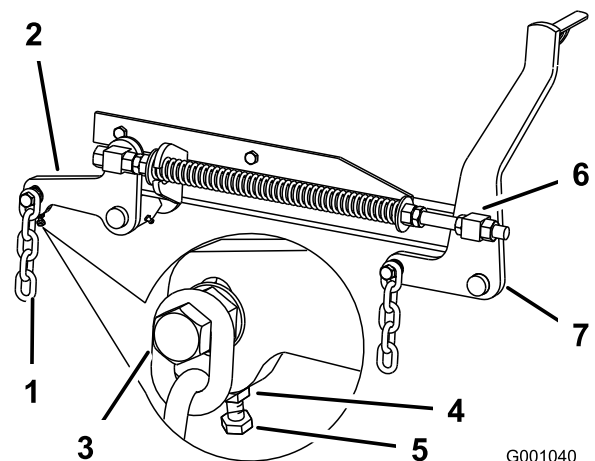

Figure 75
7. If the measurements at positions **B** or **C** are not correct, loosen the bolt attaching the rear chain to the rear support arm (Figure 75).
- Loosen the jam nut under the rear support arm and adjust the adjustment bolt to get a measurement of 3-1/8 to 3-1/4 inches (80 to 83 mm) (Figure 75).
- Loosen the front swivel jam nuts, at the front of the right and left swivels, approximately a 1/2 inch (13 mm) (Figure 75).
- Adjust the lift nuts on both the left and the right side of the machine to achieve 1/4 to 3/8 inch (6 to 10 mm) lower in front at **A** than in the rear at **B** (Figure 75).